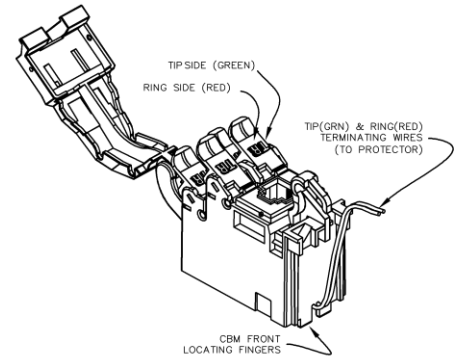
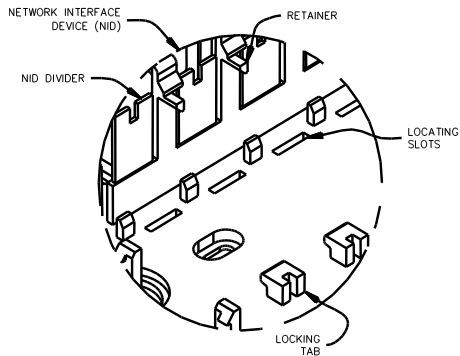

Figure 6
Figure 7
2. Insert the CBM module locking hinge into the Network Interface Device (NID) locking tab (See Figure 7).
3. Pull back NID retainer (See Figure 7) and slip CBM front locating fingers (See Figure 6) into NID locating slot.
4. Dress terminating wires (to protector) over NID divider (See Figure 7).